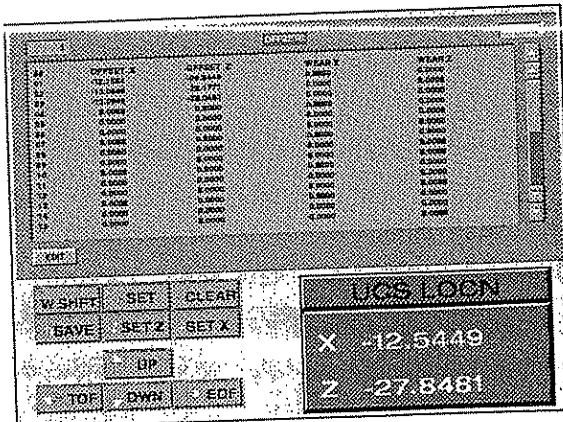

Figure 3-2
- 1) Press the **[F2] T OFFS** key. A screen as shown in Figure 3-2 will appear.